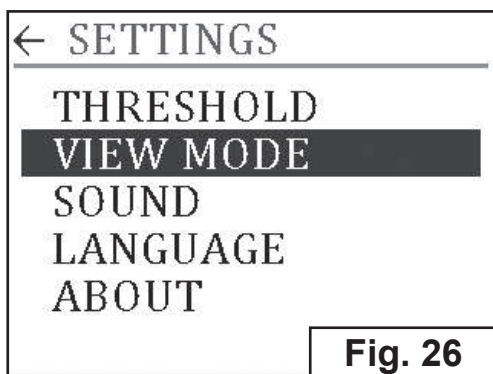

Fig. 26
2. Select «VIEW MODE» by tapping it (Fig. 26).